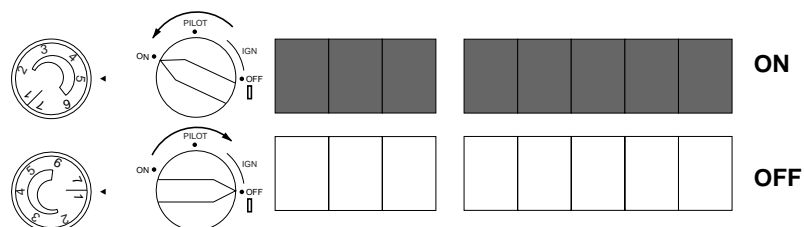

Figure 22 - Burner Patterns
- When pilot is lit, turn the control knob to ON position (see Figure 22).
- To select desired heating level, turn the temperature setting knob counterclockwise between 1 and 7 (see Figure 22).